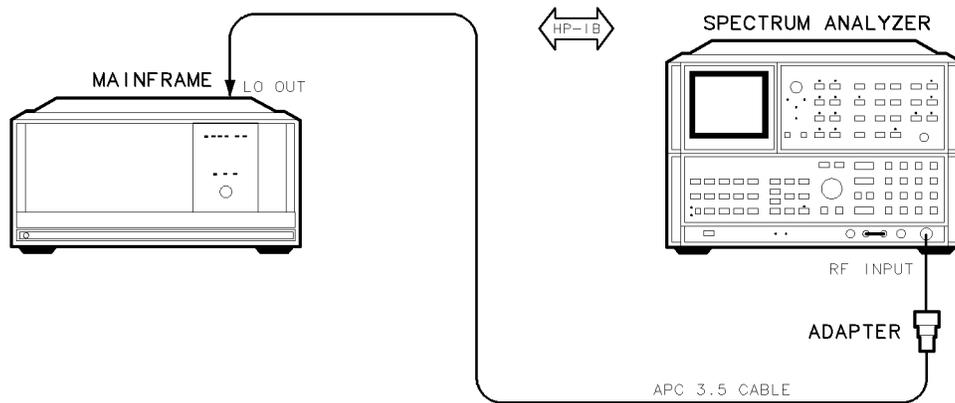

Figure 7-3. LO Output Power and Harmonics Test Setup
1. Connect the HP 8566B spectrum analyzer's RF INPUT to the DUT's rear panel LO OUT jack using the adapter, as shown in Figure 7-3.